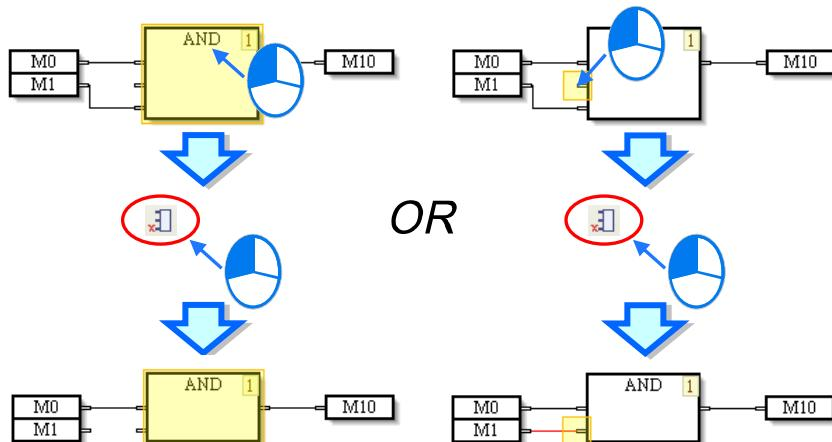

Figure 12-17 Deleting an input pin
- (5) If the users click a logic gate, and then click on the PMSoft toolbar, the input pin at the bottom of the logic gate will be deleted. If the users select an input pin, and then click , the input pin will be deleted. Please see figure 12-17.